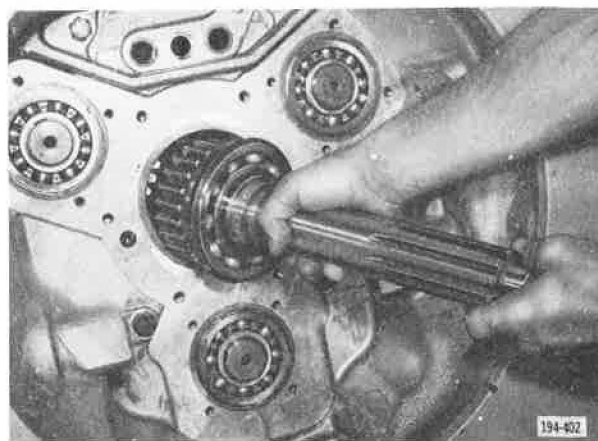

Figure 5-630. Installing Main Drive Pinion Assembly
4. Install main driving pinion assembly into place. See Figure 5-630.